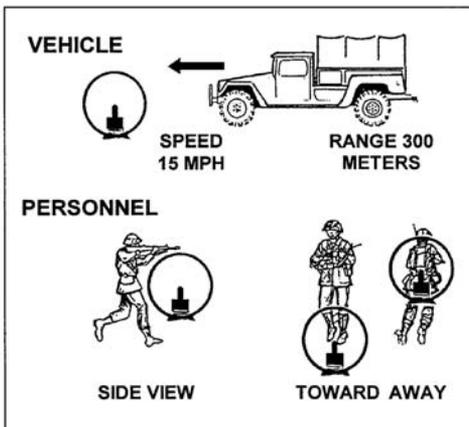

**Figure 071-010-0006-13. Linear targets with depth**
f. Moving target. To hit a moving target, estimate the speed of the target and the lead required to fire and hit it. Fire, then track the target as it moves. Adjust the lead by observing tracers and the strike of the bullets (figure 071-010-0006-14 and figure 071-010-0006-15).